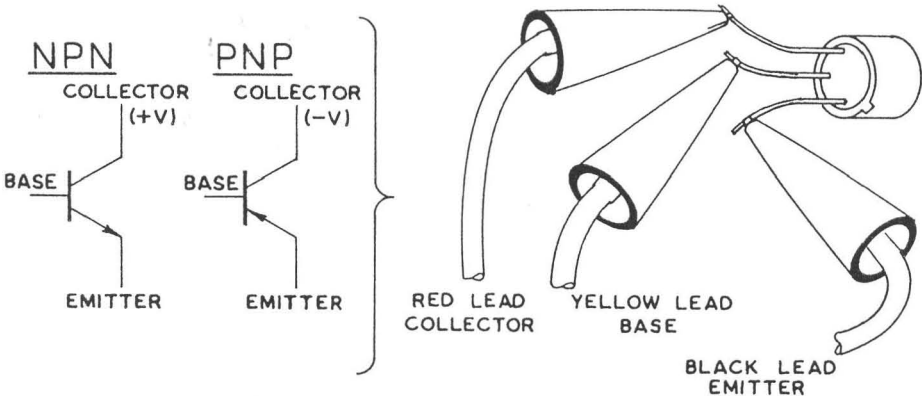

Figure 3. Connecting To A Transistor For In-Circuit And Out Of Circuit Testing
- 1. Connect the E, B, and C test leads to the transistor as shown in figure 3 or 4.